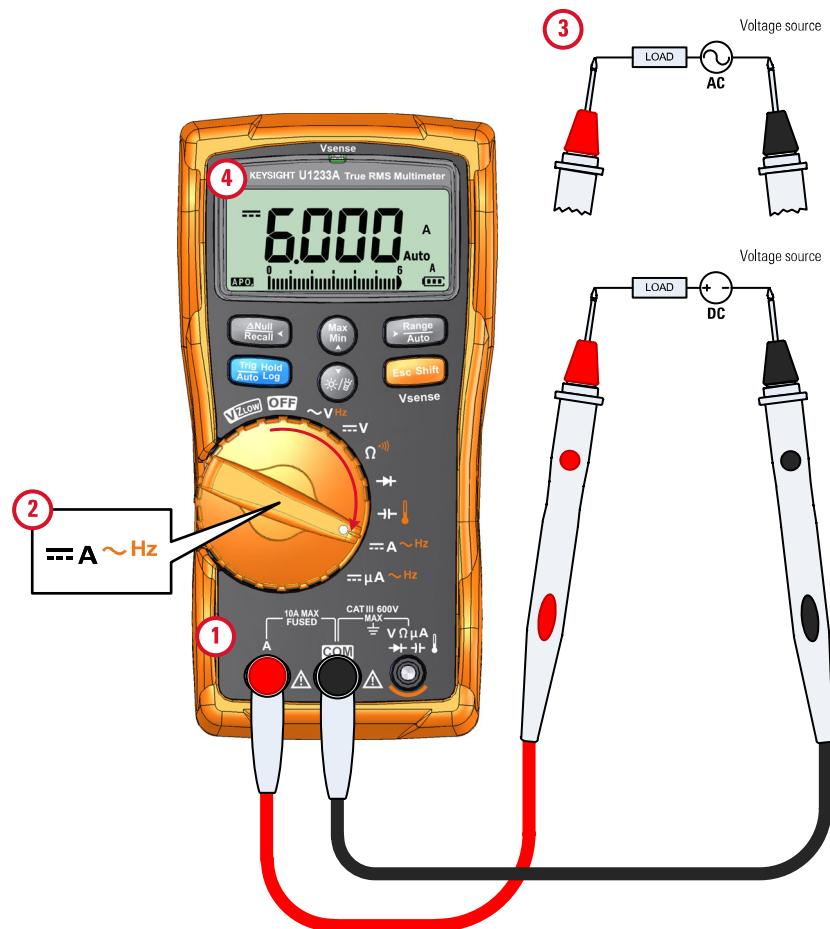
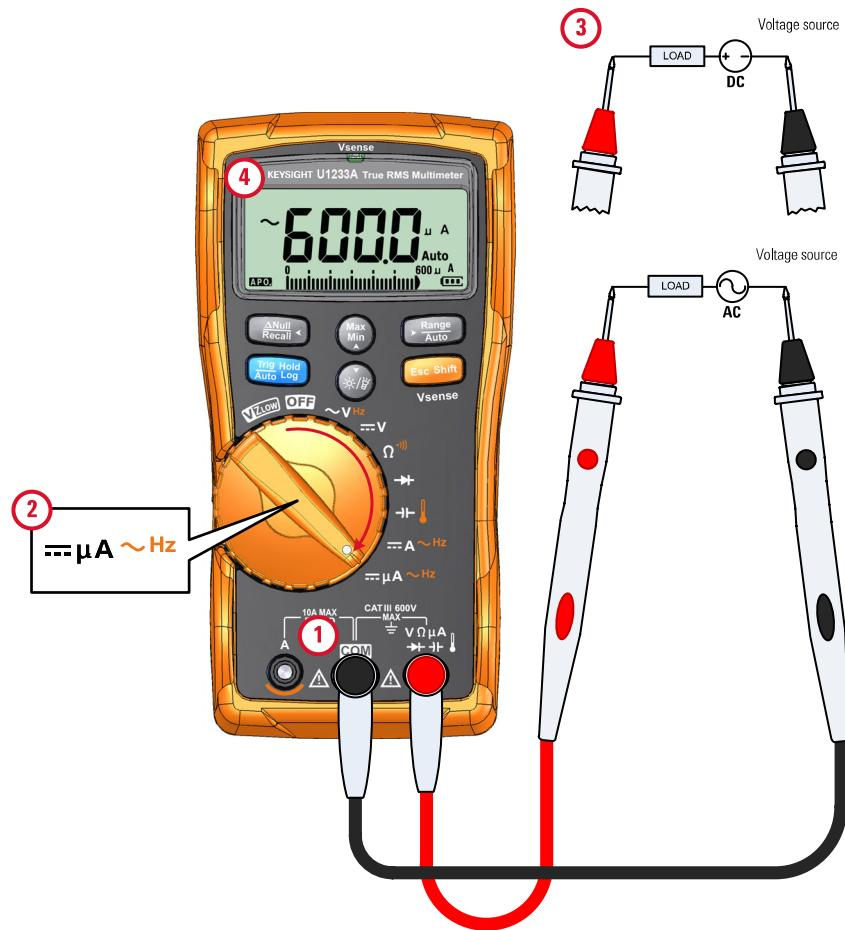

Figure 2-24 Measuring DC/AC current (up to A)
Figure 2-25 Measuring AC/DC current (up to μ A)
Set up your multimeter to measure AC or DC current as shown in Figure 2-24 and Figure 2-25. Probe the test points and read the display.
- 1 Set up your multimeter to measure μA measurements as shown in Figure 2-25.